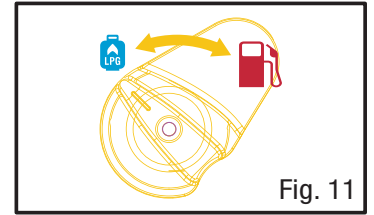

Fig. 11
6. Place one hand on the generator to hold it in place, and pull on the recoil starter handle slowly until a slight resistance is felt (Fig. 11). Then pull quickly to start the engine. Return cord gently into the machine. Never allow the cord to snap back.
1. Turn the FUEL SOURCE switch (Fig. 11) to the "LPG" position.
8. Place one hand on the generator to hold it in place, and pull on the recoil starter handle slowly until a slight resistance is felt (Fig. 11). Then pull quickly to start the engine. Return cord gently into the machine. Never allow the cord to snap back.